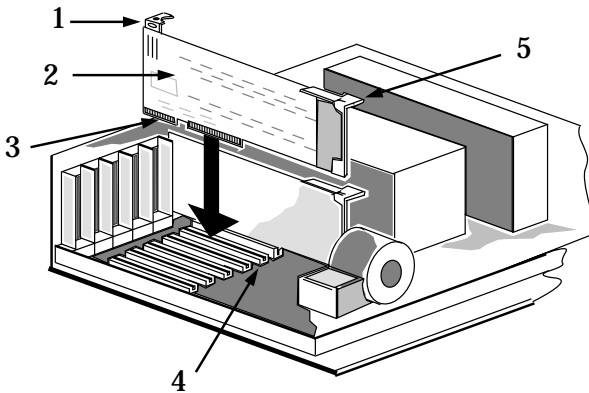

Figure 2-3. Installing the F3069 Adapter
- Orient the adapter (2, Figure 2-3) so the computer bus edge connector (3) is pointed down, and the FDDI port faces out the back of the computer as shown.
- Align the adapter so the computer bus edge connector is lined up with the expansion slot (4, Figure 2-3).
- Slide the adapter into the guide slots and firmly press, but do not force, the adapter into the expansion slot. In most Micro Channel machines, the plastic clips on the F30XX Micro Channel adapter (1, 5, Figure 2-3) will snap into place as the adapter is inserted into the expansion slot.